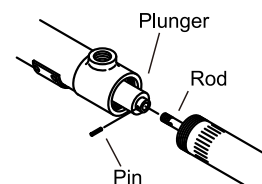

Fig.12
7. Take out a pin from the plunger section, and remove the lower pump from the plunger. (Fig.12)